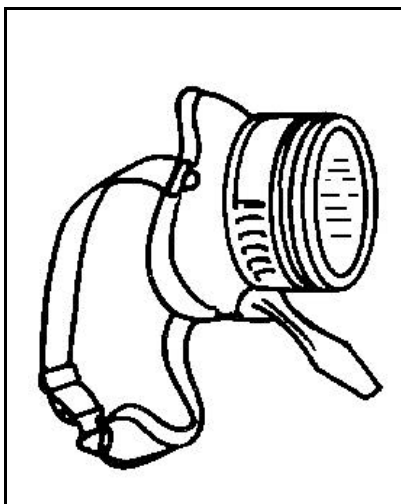

Figure 13-30. Dust Respirator
- The dust respirator (Figure 13-30, page 13-41) is one of the most common types of respirators. It contains a replaceable cartridge and its light weight makes it easy to wear.